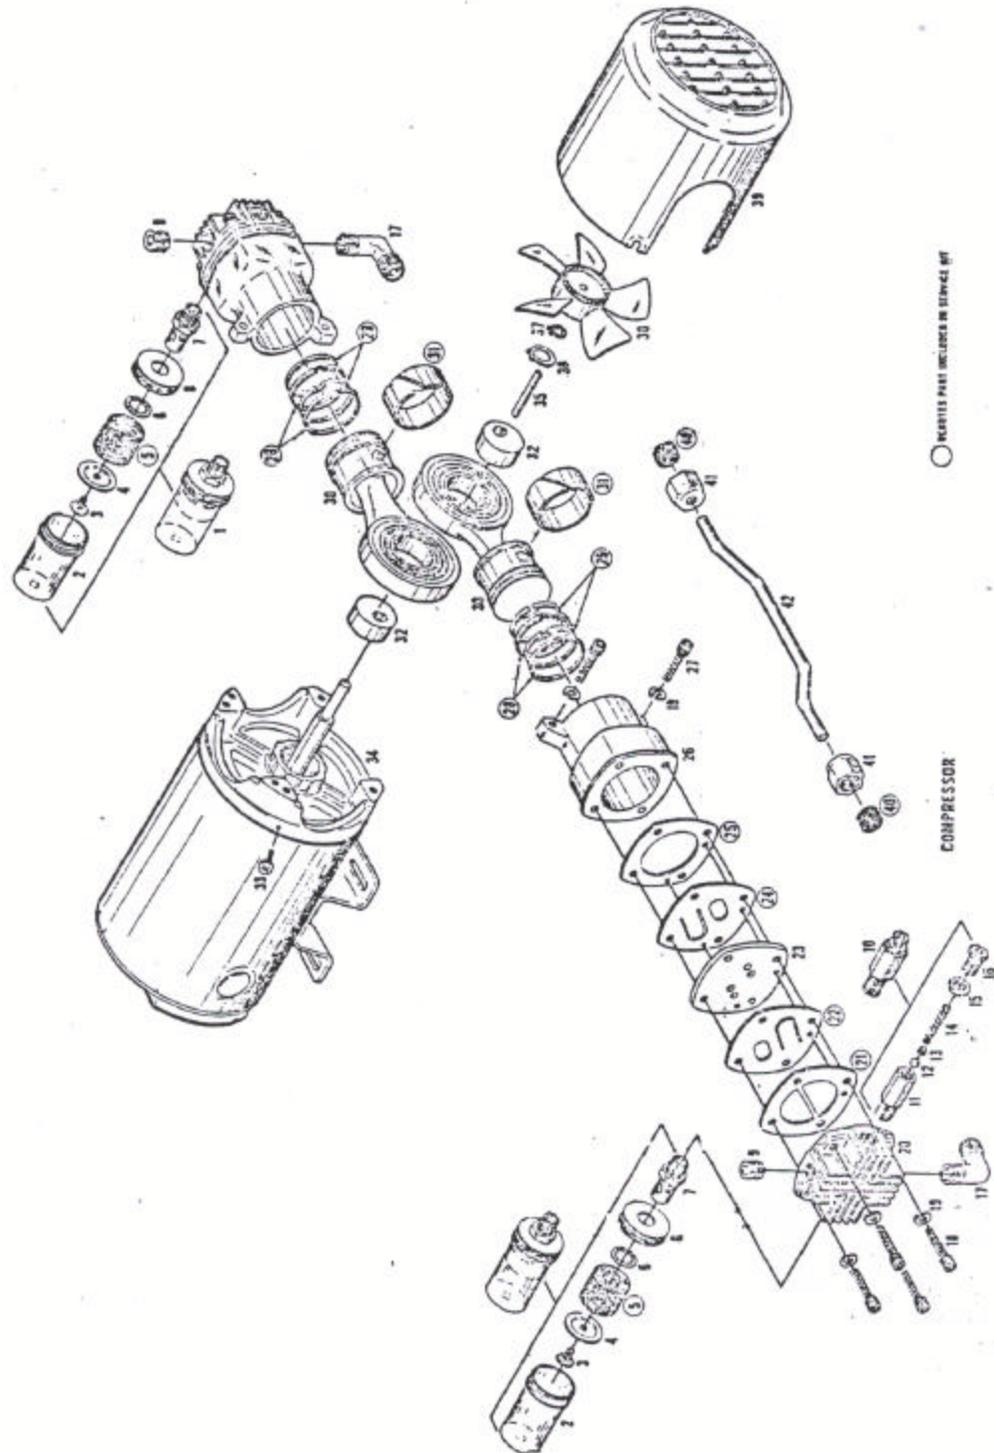

Figure F.1.3.4
### F.1.3.3 REBUILDING THE COMPRESSOR (See Figure F.1.3.4 and F.1.3.5)
4. Compressor Assembly - The part numbers that are to be replaced are circled on Figure F.1.3.4. Use the following procedure for replacing the worn parts and reassembling the compressor.